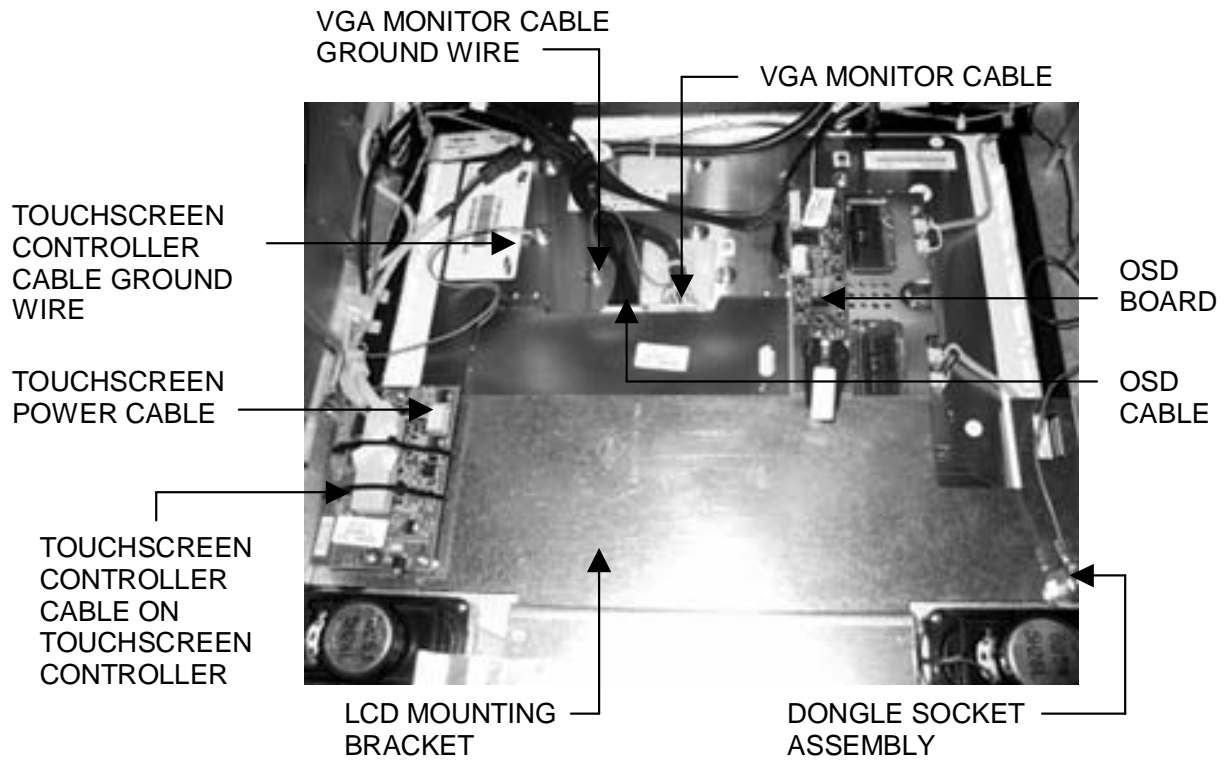

FIGURE 1 - CLOSEUP OF CPU SECTION
3. Remove the screw and washer fastening the strain relief cord, then remove the remaining 5 screws fastening the LCD mounting bracket to the game. The dongle socket ground wire will also be removed in the process. See Figure 1.
4. Remove the nut, wire and bolt from the dongle socket assembly located on LCD mounting bracket, then remove the bracket. See Figure 1.
5. Carefully cut the tie wraps around the VGA monitor cable and remove the ground wire. Disconnect the cable from the monitor and the motherboard. See Figure 1. Unscrew the bracket on the underside of the I/O board to release the cable.
6. Remove the OSD cable from the twist clamp and disconnect it from the OSD board and the monitor. Then remove the OSD board from the Velcro attached to the back of the monitor and set it aside. See Figure 1.
8. Carefully cut the tie wrap around the touchscreen controller cable and disconnect the cable from the touchscreen controller. Also remove the ground wire. See Figure 1.
9. Disconnect the touchscreen power cable from the touchscreen controller (See Figure 1), then disconnect the Molex connector identified by the orange and gray wires.
4. Install the supplied LCD mounting bracket and fasten it to the game with the 6 screws. One screw (and washer) will fasten the strain relief cord, while another will secure the blue ground wire for the dongle socket. See Figure 1.
5. Replace the dongle socket assembly by securing the bolt, green wire and nut over the LCD mounting bracket. See Figure 1.
6. Connect the touchscreen controller cable to the touchscreen controller and secure it with a tie wrap. Also restore the touchscreen controller cable ground wire. See Figure 1.
7. Connect the touchscreen power cable to the touchscreen controller (See Figure 1) and reconnect the Molex connector (orange and gray wires).
9. Reattach the OSD board to the Velcro on the back of the monitor, then connect the new OSD cable to both the OSD board and the monitor. See Figure 1. Secure the cable in the twist clamp.